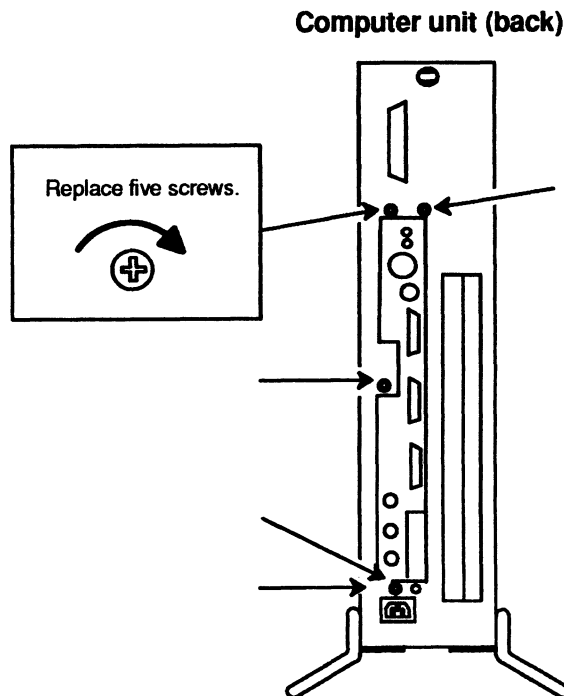

Figure 5-12 Installing the Screws that Secure the System Board Bracket to the Back of the Computer Unit
7. Using the small Phillips screwdriver, secure the system board bracket to the back of the computer unit with the five screws shown in Figure 5-12.